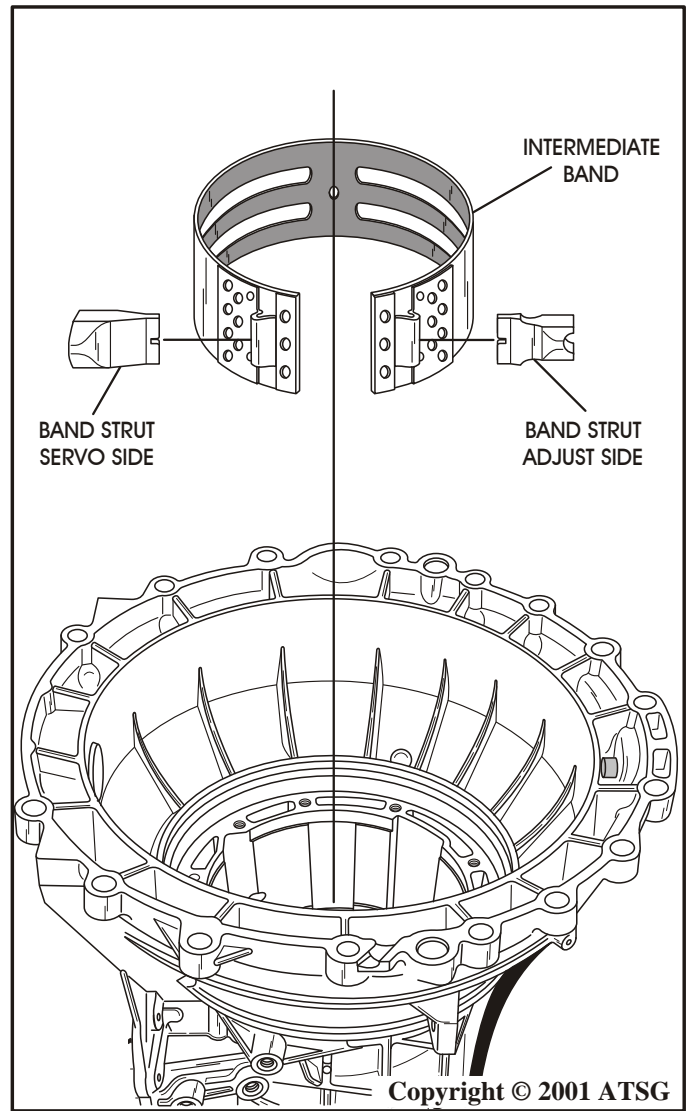

Figure 154
37. Install the intermediate band into transmission and around the direct clutch housing, as shown in Figure 154.